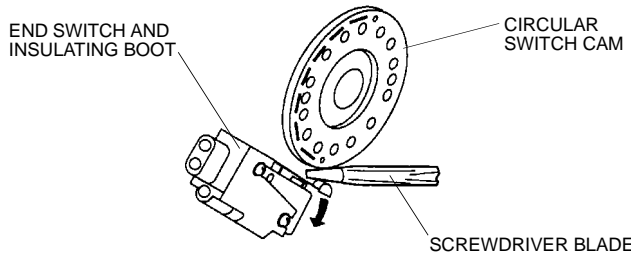

FIGURE 5 - END SWITCH ARM LOOP ADJUSTMENT
10. Bend the metal arm on the end switch arm loop (if necessary) by using a small screwdriver blade to adjust the end switch open and close points on each side of the reference hole (See Fig. 5).